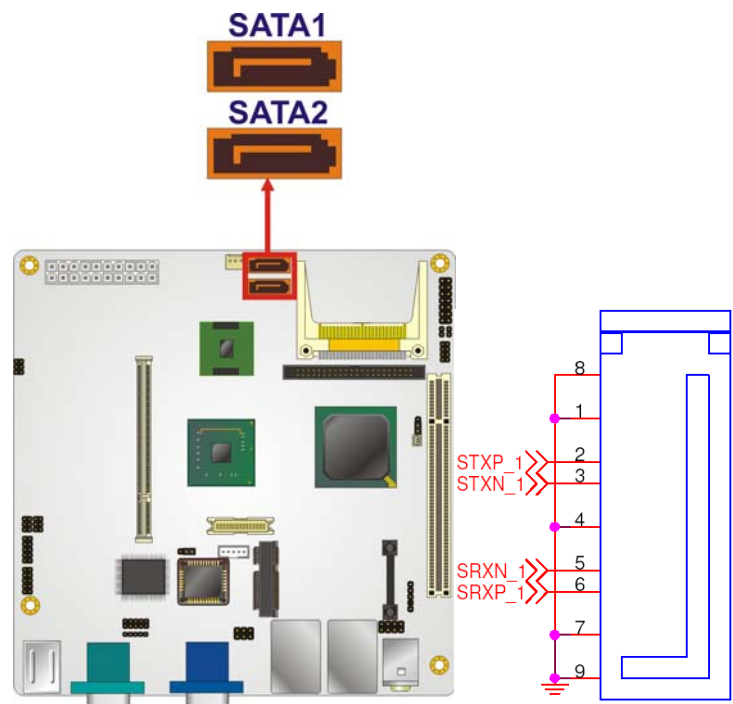

Figure 4-13: SATA Drive Connector Locations
- CN Location:** See Figure 4-13